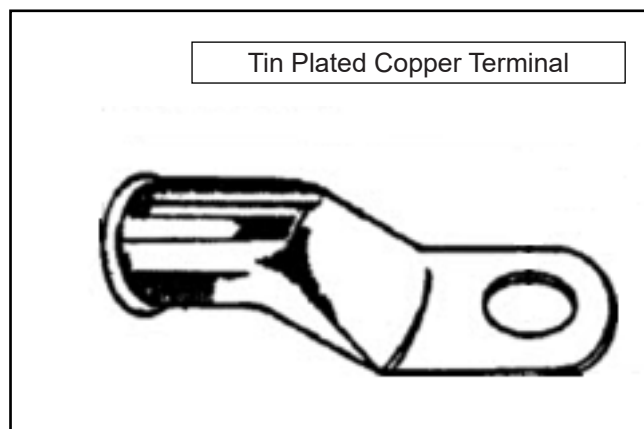

Figure 11 - Typical View of Tin Plated Copper Terminal
- 2.11. If the cable terminal tin plating is absent (copper is exposed) apply the Liquid Tin plating solution N8904593 to re-tin the copper surface (see Figure 11).